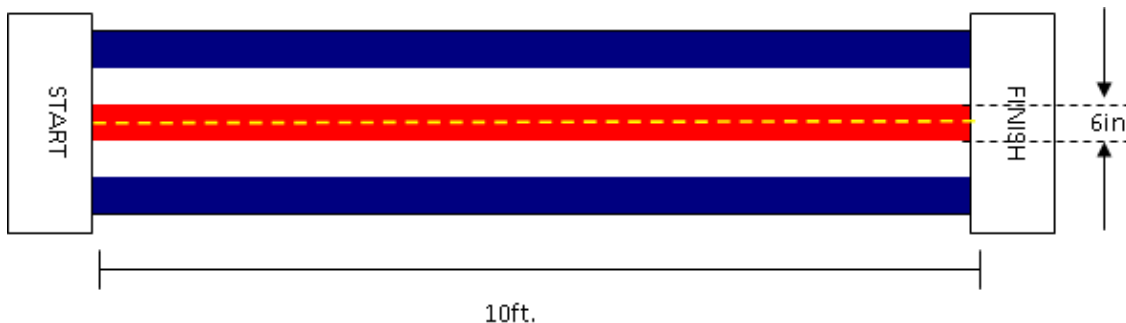

Figure 2: Straight-Line Test
**Test Method:** Using close-loop control, each robot will travel 10 feet at maximum speed in a straight-line. An apparatus will be mounted on each robot that will hold a piece of sidewalk chalk which will record the robot's path on the ground surface. The red section of Figure 2 is  $\pm 3$  inches from the straight-line path marked by the yellow dashed line and acts as the robot's target section. Each robot will perform the test once.